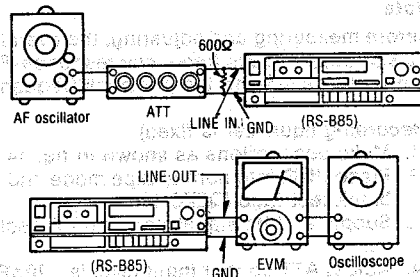

Fig. 18
1. Test equipment connection is shown in fig. 18.
8. Repeat from step (2).